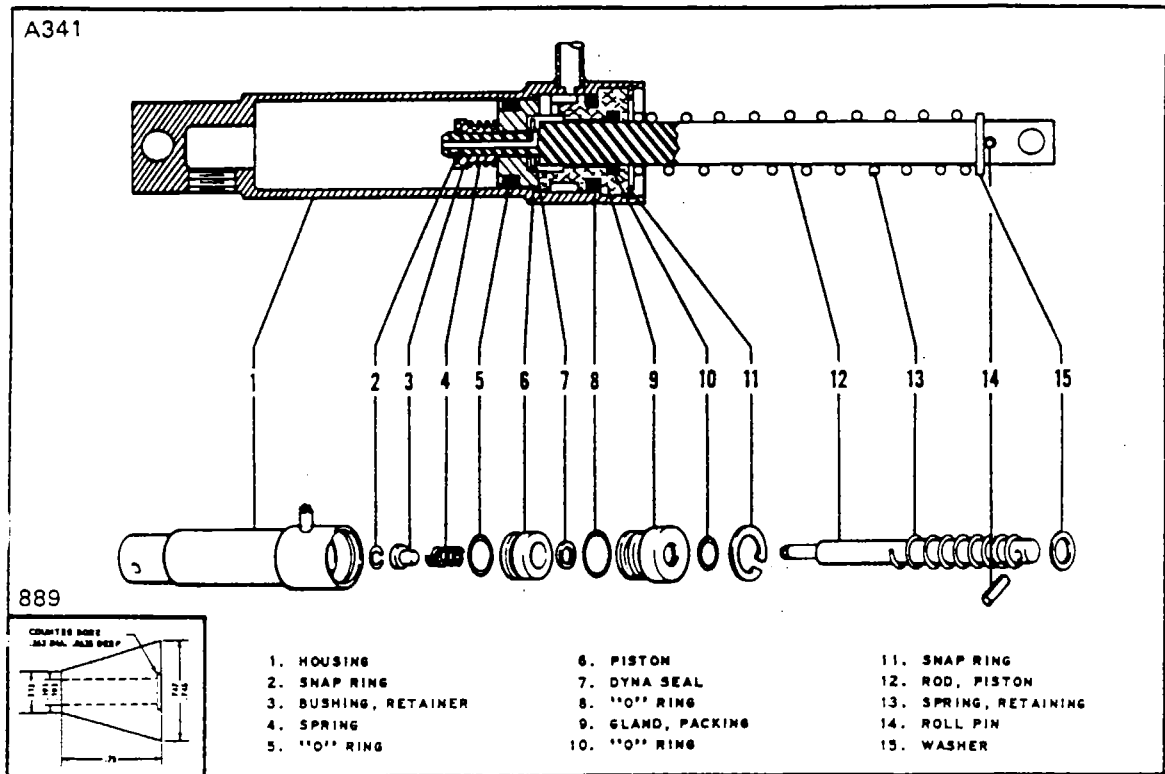

Figure 6-12. Brake Master Cylinder. (Hand/Parking Brake.)
6-35. DISASSEMBLY OF BRAKE MASTER CYLINDER. (Refer to Figure 6-12.)
6-37. ASSEMBLY OF BRAKE MASTER CYLINDER. (Refer to Figure 6-12.)
a. Install new "O" rings on the inside and outside of the packing gland (9) and on the outside of the piston (6). (When installing teflon "O" ring (5) on piston, it is recommended that it be installed with the use of a cone placed against the piston. The cone may be constructed of plastic or metal with dimensions shown in Figure 6-12.)
b. To assemble the piston rod assembly, install on the rod (12), in order, the roll pins (14), return spring retainer washer (15), return spring (13), packing gland (9) with "O" rings, seal (10), piston (6) with "O" ring, spring (4) and retainer bushing (3). Secure these pieces with small ring (2) on the end of the rod.
c. Insert the piston rod assembly in the cylinder (1) and secure packing gland with snap ring (11).